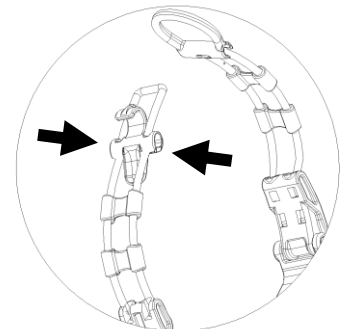

Fig. 23
3. Push the elastic strap back into the strap buckle as shown in Fig. 23.